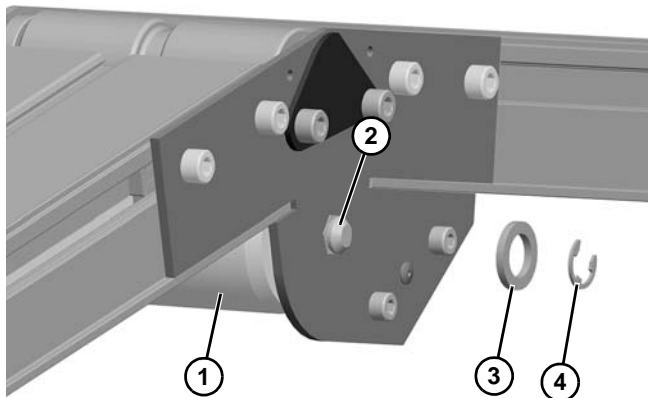

**Figure 81**
5. If equipped with a lower knuckle, install roller bearing assembly (**Figure 81, item 1**) into knuckle plate (**Figure 81, item 2**) with screws (**Figure 81, item 3**) on both sides of conveyor.
6. Install guards (**Figure 81, item 4**) with screws (**Figure 81, item 5**) on both sides of conveyor.